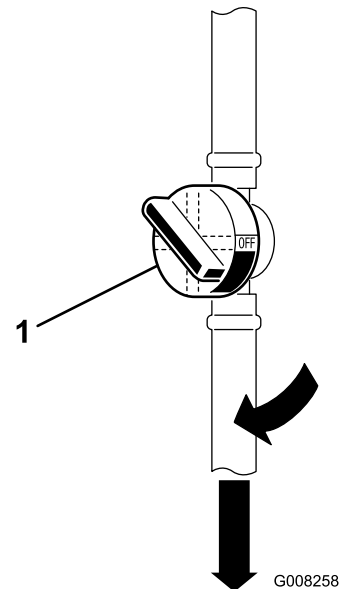

Figure 8
1. Open the fuel shut-off valve located between the fuel tank and the engine (Figure 8).